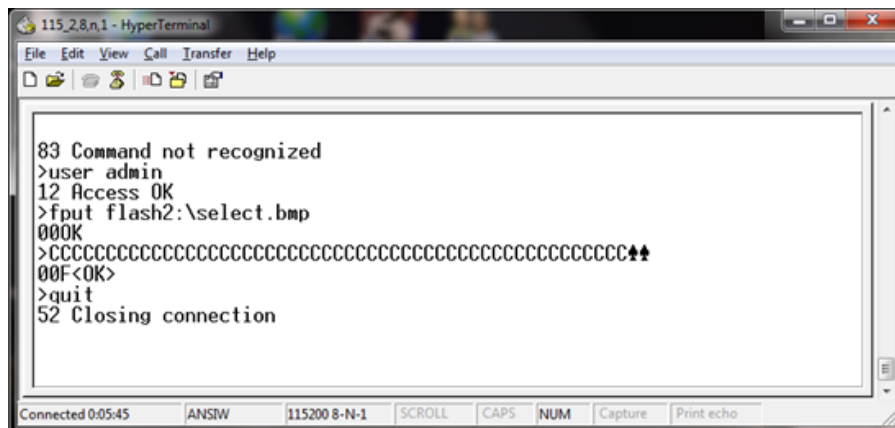

Figure D-9: HyperTerminal Final Display
12. When the file transfer is complete, the transfer window will close and HyperTerminal will show <OK> on the display (Figure D-9).